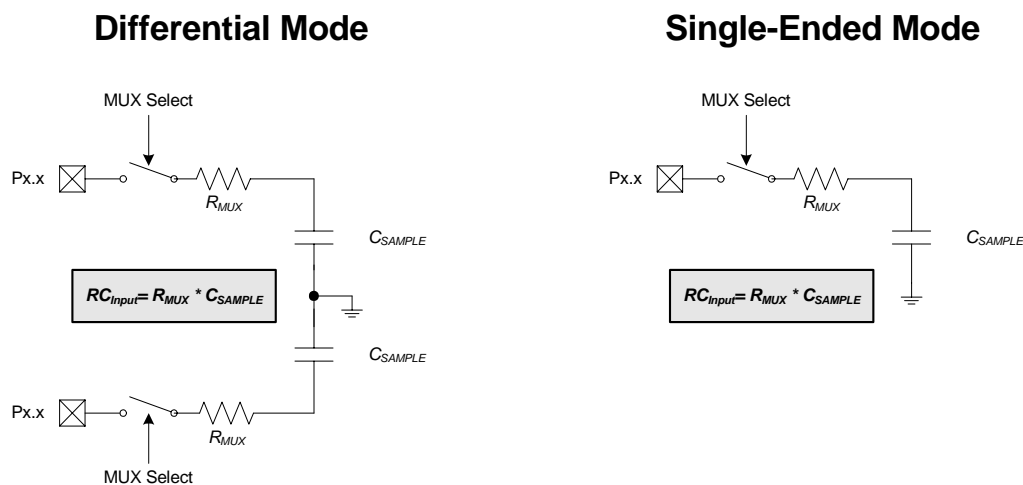

Figure 7.3. ADC0 Equivalent Input Circuits
Figure 7.3 shows the equivalent ADC0 input circuits for both Differential and Single-ended modes. Notice that the equivalent time constant for both input circuits is the same. The required ADC0 settling time for a given settling accuracy (SA) may be approximated by Equation 7.1. When measuring the Temperature Sensor output or  $V_{DD}$  with respect to GND,  $R_{TOTAL}$  reduces to  $R_{MUX}$ . See Section “6. Electrical Characteristics” on page 27 for ADC0 minimum settling time requirements as well as the mux impedance and sampling capacitor values.